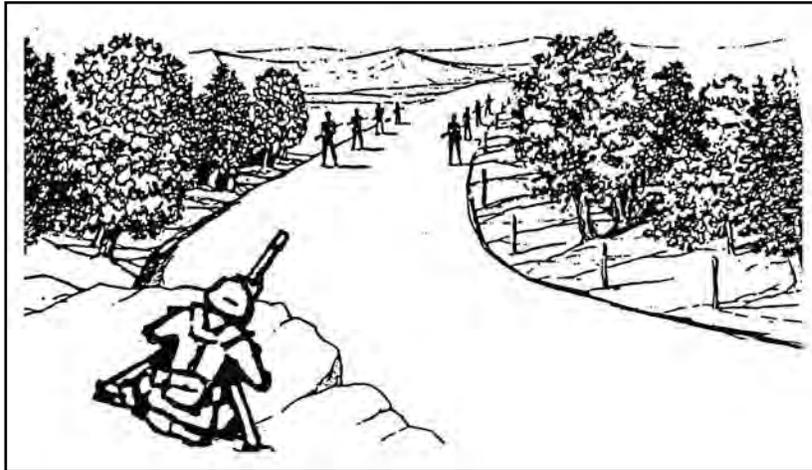

Figure 071-030-0004-10. Deep target
(5) Area target. Initially aim at the midpoint of the target area. Traverse and search to either flank, then traverse and search to the opposite flank (figure 071-030-0004-11).